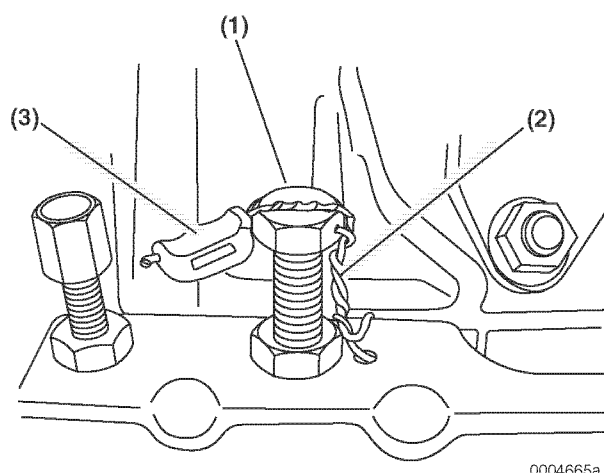

Figure 7-37
Should the high-idle adjustment bolt (**Figure 7-37, (1)**) be damaged and require replacement, or it is obvious that the high-idle adjustment has been tampered with, use the following procedure to replace and/or adjust the high-idle adjustment bolt.
3. After adjusting the engine speed to the correct RPM, install the tamper-proof wire (**Figure 7-37, (2)**).
4. After installing the wire, install and crimp the tamper-proof seal (**Figure 7-37, (3)**) onto the wire.